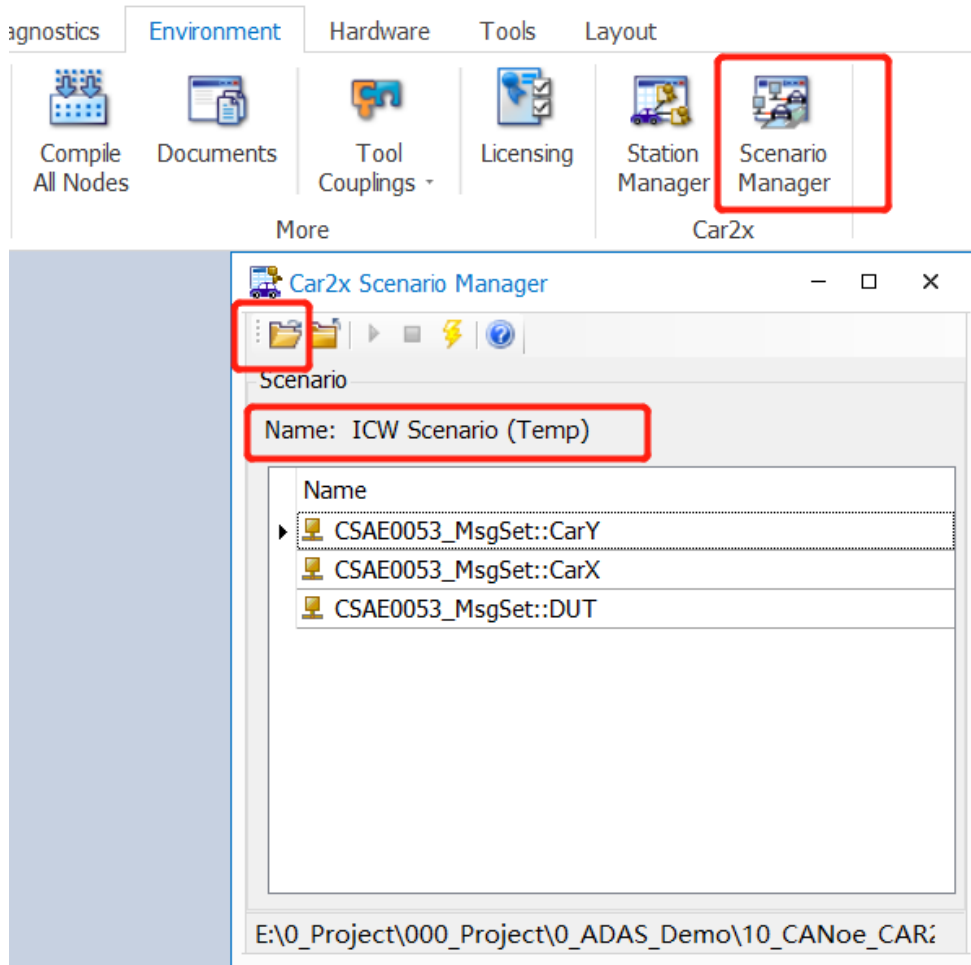

Figure 19: Import V2X of scenario file
- ▶ Use the CANoe software to open the Project attached to this guide and, and open the Scenario Manager tool to import the previously constructed C-V2X scenario file : ICW Scenario (Temp).scn (Figure 19)